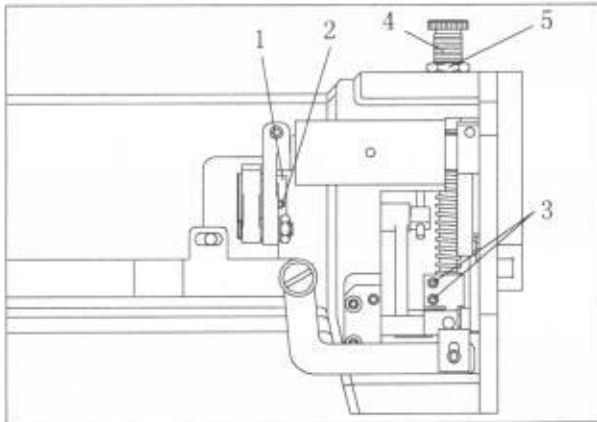

Fig 8
To adjust the pressure of the presser foot, proceed as follows(Fig 8)
-- The outer presser foot jump also needs adjusted according to different sewn materials . Loosen the screw 3(Fig 8) and move the outer presser foot up or down to a proper height.
-- Movement changes if the inner and the outer presser foot are not equal in position. In this case, the inner presser foot needs adjusting. Put down the presser foot and grasp the inner presser foot. Loosen the screw 3(Fig 8) and move it up or down to a proper height.
- Loosen the screw 2 of the eccentric gear 1(Fig 8).